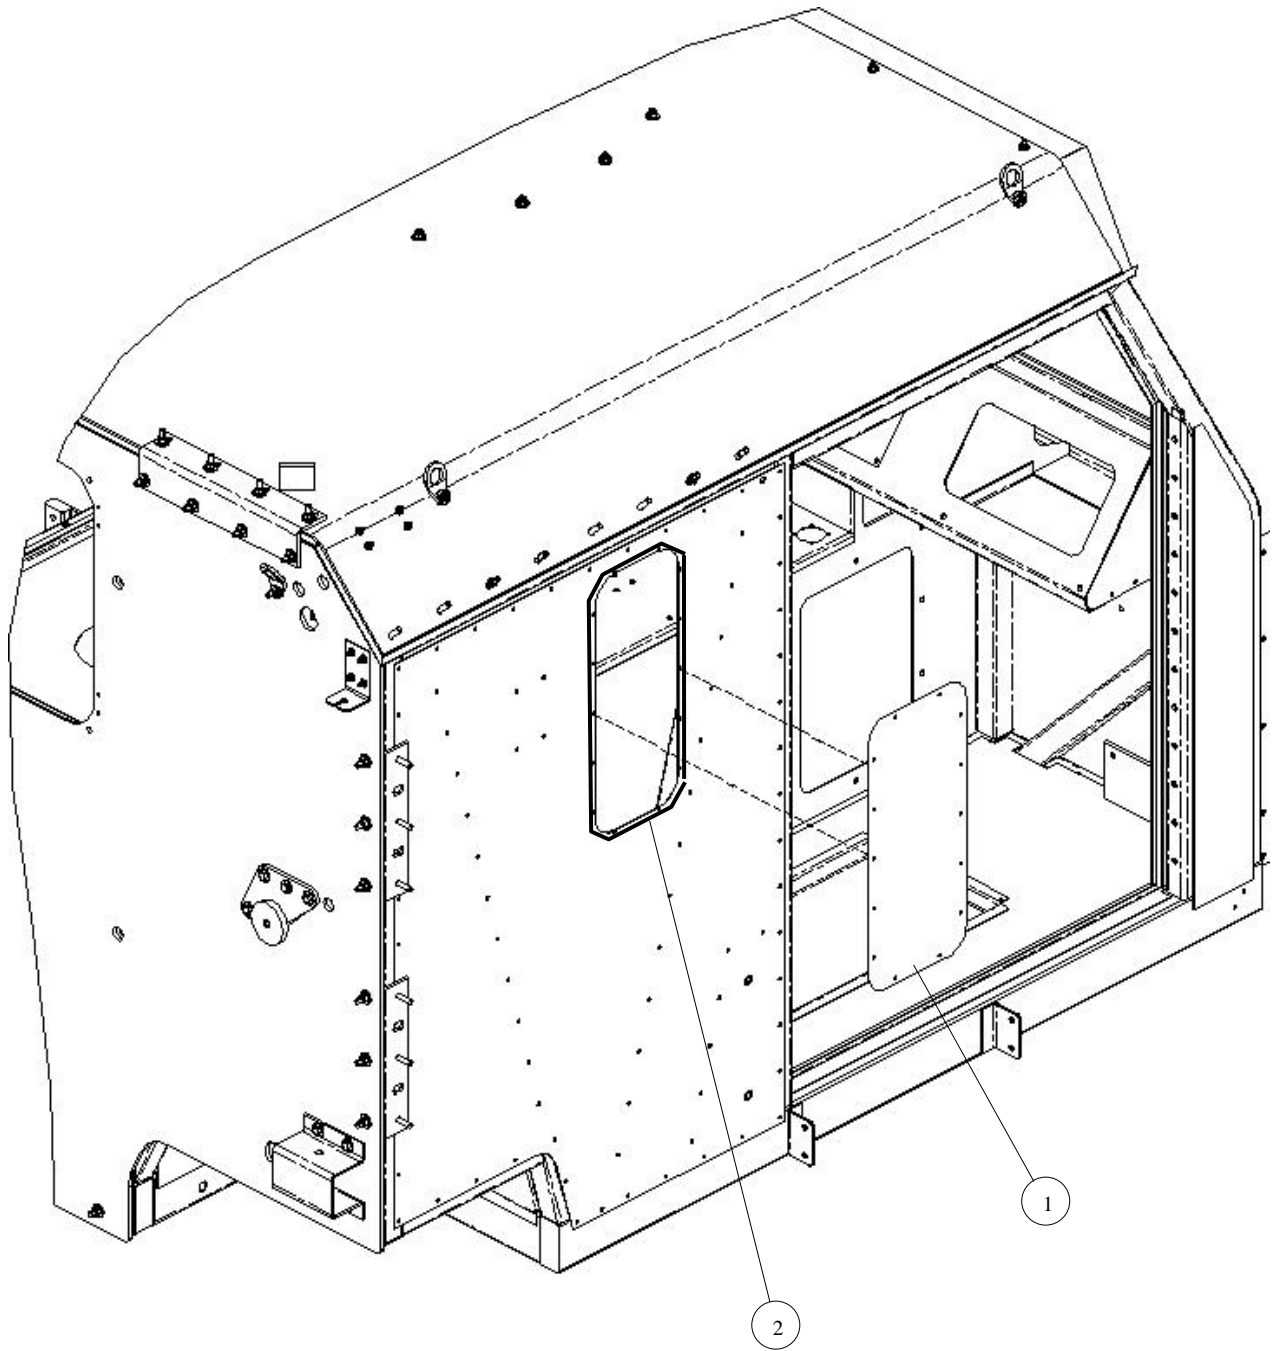

Figure 3-22. Right Side Window Cover Installation.
- d. Install four sleeve bushings (1) as shown in Figure 3-22 and secure each with one bolt (2), two flat washers (3), and one locknut (4). Torque locknuts to 35 lb-ft.
1. Install right window cover as follows (see Figure 3-22):
- a. Apply a bead of black urethane sealant (2) around perimeter of right side window opening.
- b. Install window cover (1) using original hardware (Retained from Teardown, Chapter 2).